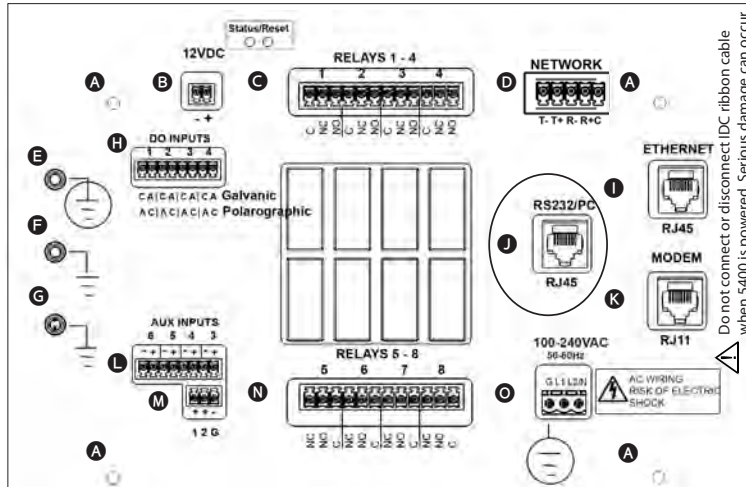

figure 3.31
Use Category 5e patch cable from RS232 port at location **J** - figure 3.31 of I/O Board to PC using RJ45 to DB9 adapter.
- Connect one end of communication cable to RJ45 at location **J**. Connect other end to RS232 PC com port using RJ45 to DB9 adapter figure 3.31.